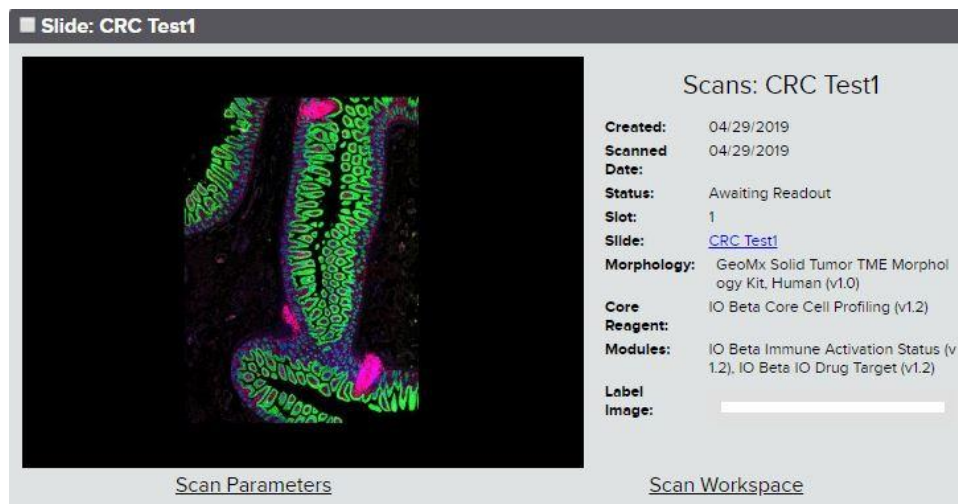

Figure 23: Scan card with Scan Workspace link
2. To access the Scan Workspace from outside of the DSP run workflow, select the Records button from the DSP Control Center. Use the Navigation window to browse to your scan and select it. On your scan card, select the Scan Workspace link (see Figure 23).